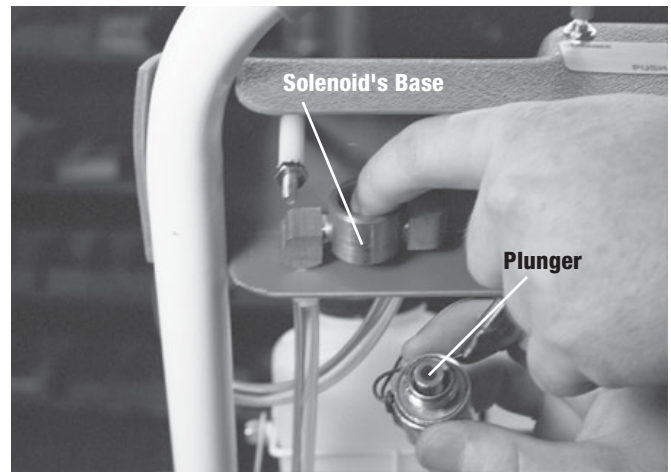

Figure 23
5. Use your finger to clean any debris from plunger and interior of solenoid's base (fig. 23).